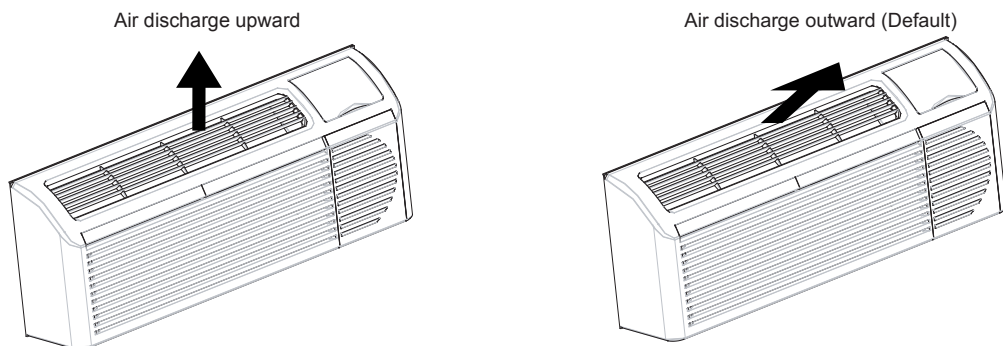

Fig. 19 – Adjusting Louvers
3. Turn louver insert and rotate 180°. See Fig. 19.